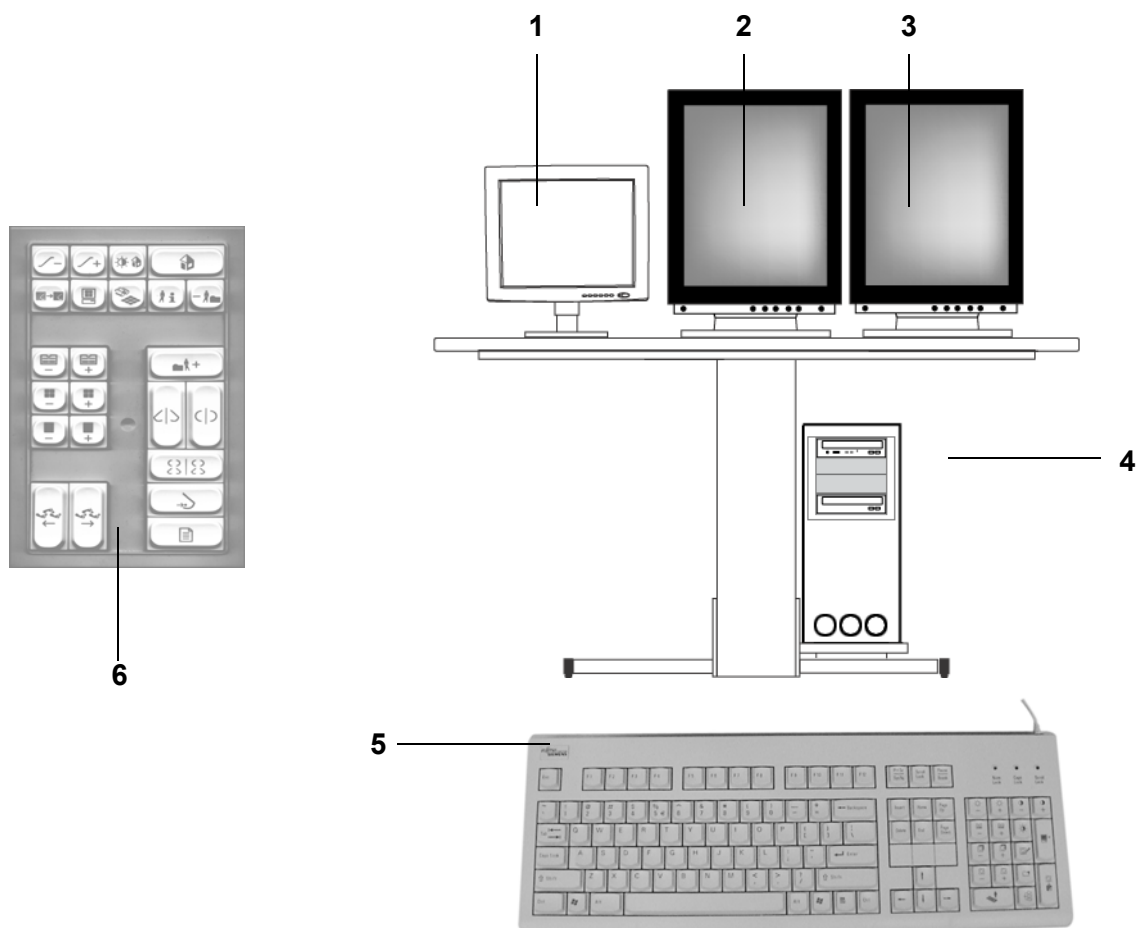

Fig. 1 Overview of syngo MammoReport
The numbers in Fig. 1 are identical to the position numbers in the table on the next page.
Fig. 1 *syngo* MammoReport workstation
- Plastic parts of the workstation (PC) (1/Fig. 1):